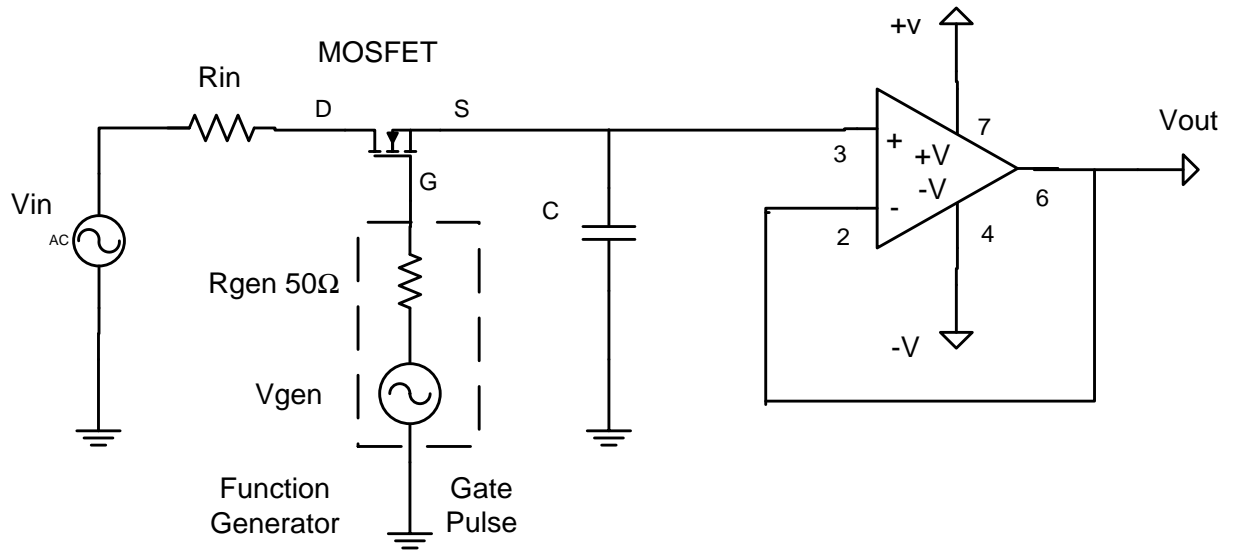

Figure 3: Sample and Hold
The sample and hold circuit shown in Figure 3 uses an op-amp in the non-inverting configuration and a MOSFET. The square wave input determines the sampling rate and the length of time to hold the sample. The MOSFET acts as a switch, which is on during sampling and off during the hold time. When the square wave is positive, the MOSFET is on and circuit samples the input signal by passing it to the op-amp and charging the capacitor. When the square wave is negative, the circuit is in the hold mode. In this mode, the MOSFET turns off and the output is the value the capacitor charged to during the previous sampling interval.
4.5. (25 point) Verify the operation of the sample-and-hold circuit in Figure 3 with LTspice. Use a time domain analysis to plot the input and output. Use an 2N7000 for the MOSFET, $R_{in} = 100 \Omega$, and set C to $1 \mu F$. Use a $1 V_{pk}$ **sine** at 60 Hz for the input waveform and use a 1 kHz, $20 V_{p-p}$ square wave (use **pulse** $V_{initial} = -10V$, $V_{on} = -10V$, $T_{on} = 0.5ms$, $T_{period} = 1ms$, $T_{rise} = 0$, $T_{fall} = 0$, $T_{delay} = 0$, and series resistance = 50Ω) as the gate input. Use $\pm 15 V$ supplies for the op-amp. Find the time delay from input to output and mark it on the plot.
5.4. Construct the sample and hold circuit in Figure 3. Use a $100\text{ }\Omega$ resistor for R_{in} and a $1\text{ }\mu\text{F}$ capacitor for C . Remember that the $R_{\text{gen}} = 50\text{ }\Omega$ resistor is internal to the function generator and that you do not actually need to include it in your circuit. Drive the gate of the MOSFET (2N7000) with a 1.2 kHz square wave from the function generator that has an upper limit of $+10\text{ V}$ and a lower limit of -10 V . For the input signal source, V_{in} , use the VARIAC with the step-down transformer. Adjust the VARIAC until the secondary voltage from the transformer is 1 V_{pk} . Use $\pm 15\text{ V}$ supplies for the op-amp (741). Be sure to bypass the power supplies with 4.7 nF capacitors.